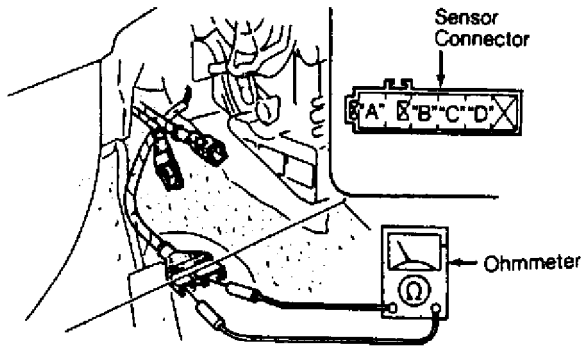

Fig. 11: Testing Rear Safing Sensor Continuity
3) Disconnect front impact sensor connectors (center, left and right). Measure resistance across terminals "A" and "B" of each sensor. See Fig. 11. Resistance should be about 1200 ohms. If resistance is not as specified, replace sensor. If resistance for all sensors is correct, go to next step.
7) Disconnect front impact sensor connectors (center, left and right). Measure resistance across terminals "C" and "D" of each sensor. See Fig. 11. Resistance should be about 1200 ohms. If resistance is not as specified, replace sensor. If resistance for all sensors is correct, replace wiring harness.
2) Disconnect front impact sensor connectors (center, left and right). Measure resistance across terminals "A" and "B" of each sensor. See Fig. 11. If resistance is about 1200 ohms, go to next step. If resistance is not about 1200 ohms, replace faulty sensor.